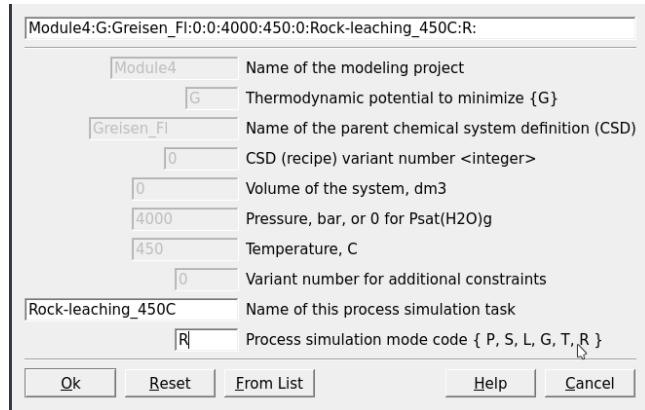

Figure 4.2: Create a new record for a Process simulation in R mode.
- Name the simulation task “Rock-leaching_450C” and use as simulation code R this time instead of S (Figs. 4.2 and 4.3).